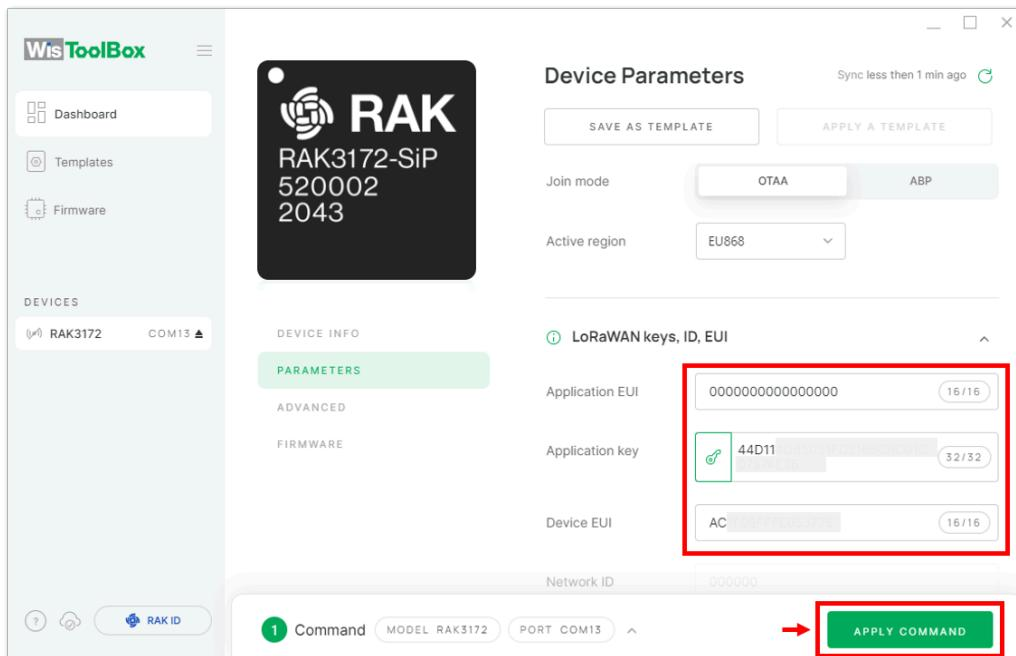

Figure 66: Used credentials from your console in WisToolBox dashboard
- Then go back to the console where your RAK3172-SiP End device is created previously. Then copy all the credentials from there. Those will be the ones to be used also in the WisToolBox dashboard. Once encoded into the dashboard, click **APPLY COMMAND** to update your device as shown in **Figure 66**.